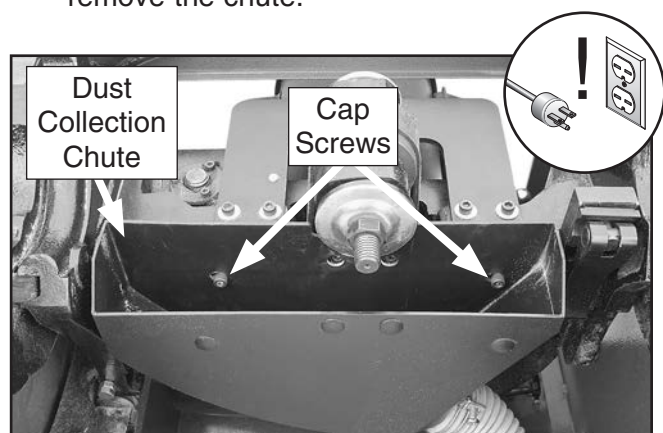

Figure 128. Dust chute mounting screws.
7. Remove the cap screws that secure the dust collection chute, shown in **Figure 128**, then remove the chute.